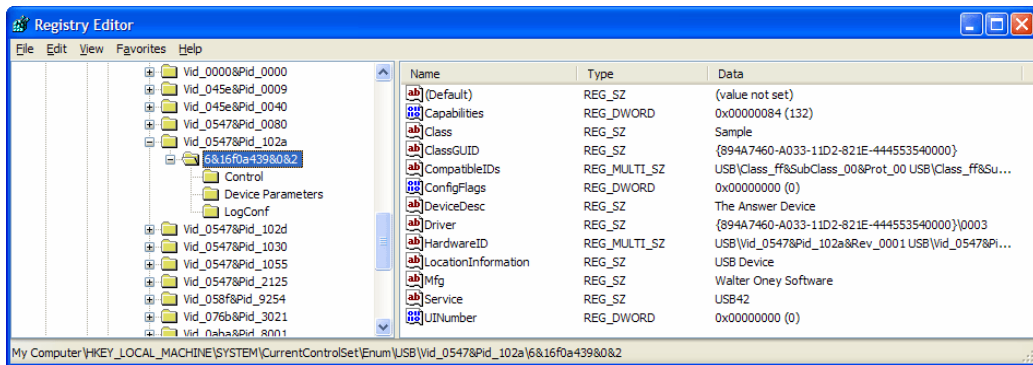
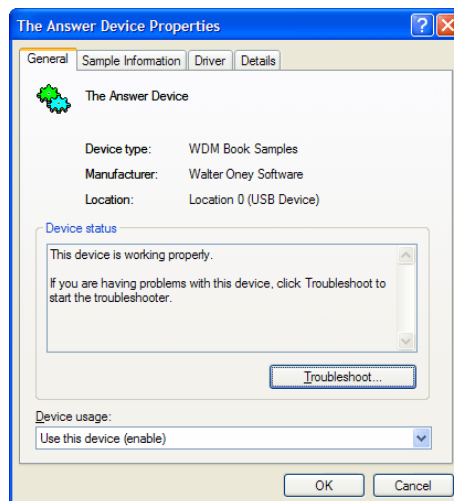

Figure 15-2. A hardware key in the registry.
Figure 15-3. Device Manager properties for the USB42 device.
Device hardware keys appear in the `\System\CurrentControlSet\Enum` subkey of the local machine branch of the registry. Figure 15-2 illustrates the hardware key for a sample device (namely, the USB42 sample from Chapter 12). The subkeys on the first level below the *Enum* key correspond to the different bus enumerators in the system. The description of all past or present USB devices is in the `... \Enum\USB` subkey. I've expanded the key for the USB42 sample to show you how the device's hardware ID (vendor 0547, product 102A) has turned into the name of a key (`Vid_0547&Pid_102A`) and how a particular instance of the device that has that ID appears as a further subkey named `6&16f0a439&0&2`. The `6&16f0a439&0&2` key is the hardware, or instance, key for this device.
Some of the values in the hardware key provide descriptive information that user-mode components such as the Device Manager can use. Figure 15-3 shows how the Device Manager portrays the properties of USB42. If you compare Figures 15-2 and 15-3, you'll notice some common things. In particular, the *DeviceDesc* string in the hardware key is the title of the device (unless there happens to be a *FriendlyName* property in the registry, which isn't the case here), and the *Mfg* property appears as the Manufacturer name in the property page. I'll explain later where some of the other property information comes from. I'll also explain later how you can access these properties from a user-mode application or from a WDM driver.
- *(Default)* specifies the friendly name of the class. This is the class title that the Device Manager uses. (Refer back to Figure 15-3.)